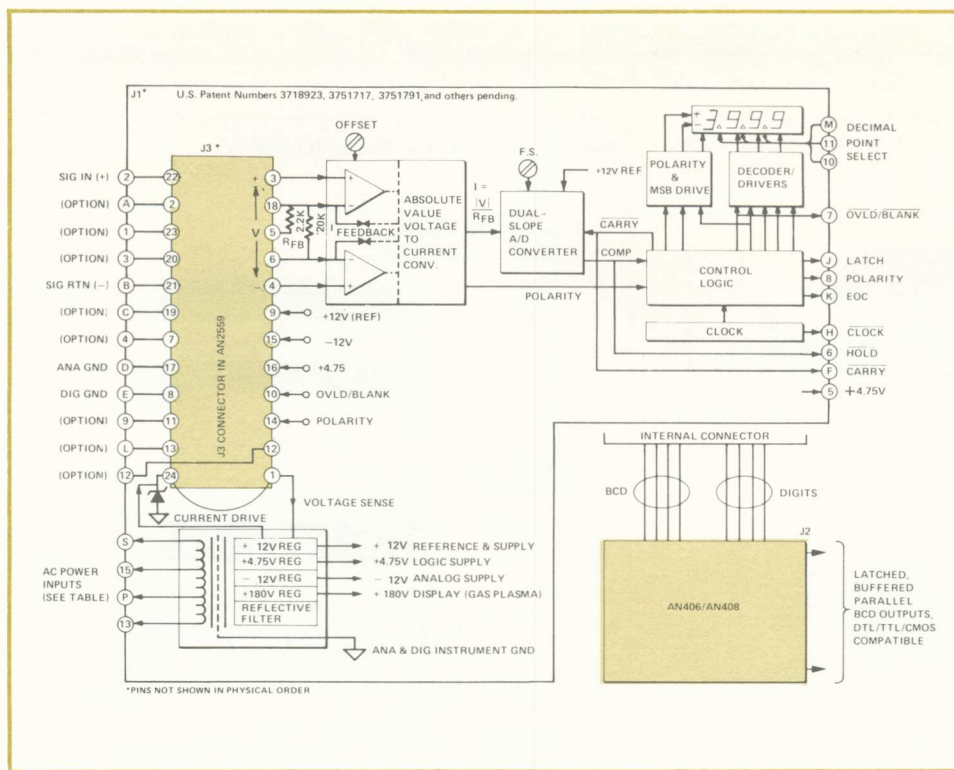
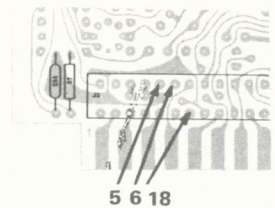

Figure 2. Simplified Schematic Diagram of AN2559.
Figure 6. PC-Board Scaling Connections
As shown in Figure 2, the AN2559 contains a floating true differential front end; an absolute-voltage-to-current converter; a dual slope ratio-metric, current-to-count integrating analog-to-digital converter; clock-driven logic control circuits, decoders, drivers, and displays; and regulated power supplies derived from secondary windings of the universal transformer.
Signal input to connector J1 is conditioned by arbitrary signal conditioning on the analog option card inserted in internal connector J3, resulting in a potential difference (V) at J3, Pins 3 and 4, connected to the non-inverting inputs of the differential input amplifiers. The conditioned signal input (V) develops a unidirectional signal current (I) whose magnitude depends on the value of the selected feedback resistance ( $R_{FB}$ ), according to the simple Ohm's Law formula shown in Figure 2. The signal current linearly charges a high quality, low leakage, integrating capacitor during the signal integration phase of the dual-slope conversion. The current generation circuit also includes the polarity sensing for display.
With a 20,000Ω feedback resistor ( $R_{FB}$ ) connected as shown in Figure 2, the DPI is normally calibrated at the factory for a full-scale range of 4 volts/4,000 counts. A thermally tracking internal resistor (2,200 Ω) may be connected in parallel with the 20,000-ohm resistor by connecting pins 5 and 6 on J3. See Figure 6. The parallel resistance of 2000 ohms provides the user-selectable sensitivity of 100mV/1,000 counts (100μV/count).
To hold a displayed reading, gate a HOLD command (the comparator output shown in Figure 2) with the rising edge of EOC (available at J1, Pin K). Then, generate a DTL low level signal (HOLD). When applied to Pin 6 of J1, the HOLD signal will keep the last conversion displayed, while the DPI continues to update the measurement internally. When HOLD is removed, the next valid measurement is transferred to the display latches.